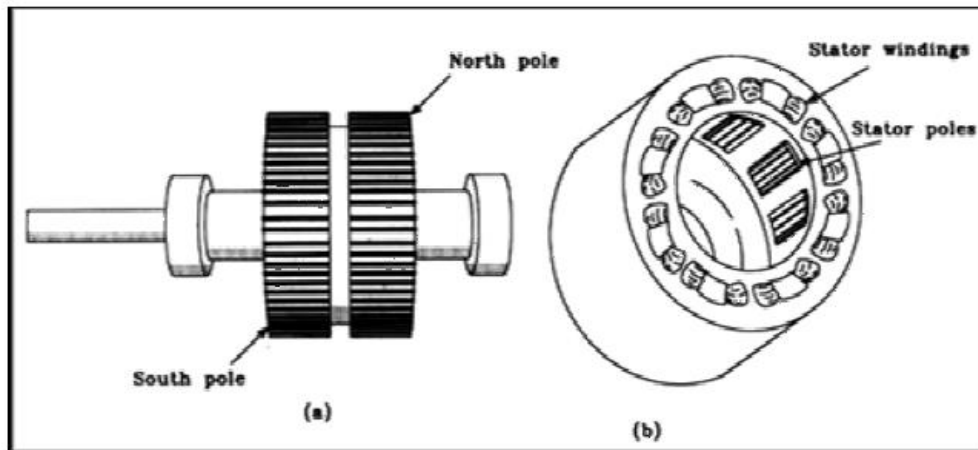

Fig 3: Components of a PM Stepper Motor (a)Rotor and (b) Stator
Permanent-magnet (PM) Stepper Motors : The permanent-magnet stepper motor operates on the reaction between a permanent-magnet rotor and an electromagnetic field. Figure 6 shows a basic two-pole PM stepper motor. The rotor shown in Figure 3(a) has a permanent magnet mounted at each end. The stator is illustrated in Figure 3(b). Both the stator and rotor are shown as having teeth. The teeth on the rotor surface and the stator pole faces are offset so that there will be only a limited number of rotor teeth aligning themselves with an energized stator pole. The number of teeth on the rotor and stator determine the step angle that will occur each time the polarity of the winding is reversed. Greater the number of teeth, smaller the step angle.